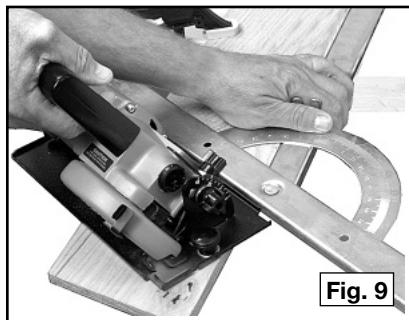

Fig. 9
Bevel cuts are made in the same manner as cross-cuts, except that the saw base is tilted to the desired angle. An optional protractor gauge (A) Fig. 9 is available to aid in cutting compound angles. This gauge is also useful for crosscutting operations.